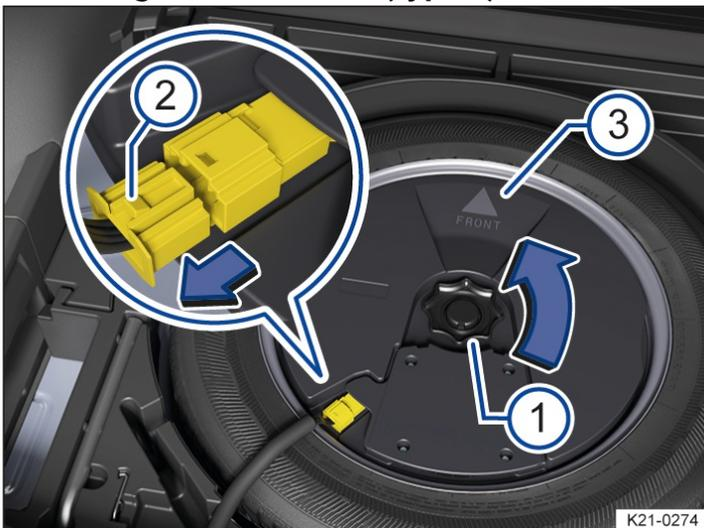

Fig. 2 In the luggage compartment: removing subwoofer (type 2).
2. Unscrew handwheel → Fig. 2 ¹ in the direction of the arrow.
3. To unlock the connector, press the catch on the end of the plug → Fig. 2 ².
1. Place the subwoofer carefully in the rim base. The tip of the arrow symbol "FRONT" → Fig. 2 ³ on the subwoofer must face forwards.
2. Plug in connector → Fig. 2 ² until the catch audibly engages.
3. Screw the handwheel → Fig. 2 ¹ onto the threaded pin in the opposite direction to the arrow until the subwoofer is secured in place.